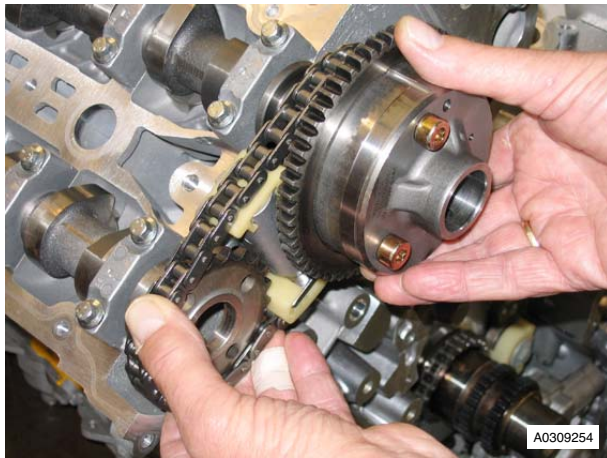

Figure 6
18. Remove RH camshaft sprockets complete with timing chain and tensioner from camshafts (see Figure 6).